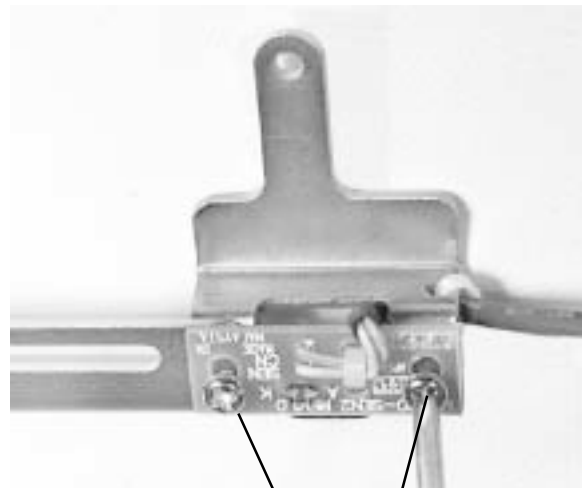

Fig. 6-74
7.	Remove (2) screws to detach the Notch/Gap Sensor from the bracket. Fig. 6-74